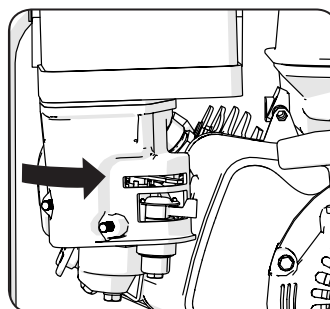

Fig 15
- Usually the choke can be returned to the 'off' position almost immediately when the engine fires up, but this will depend upon ambient temperatures, operating conditions etc and operators discretion will be required. (Fig. 15)